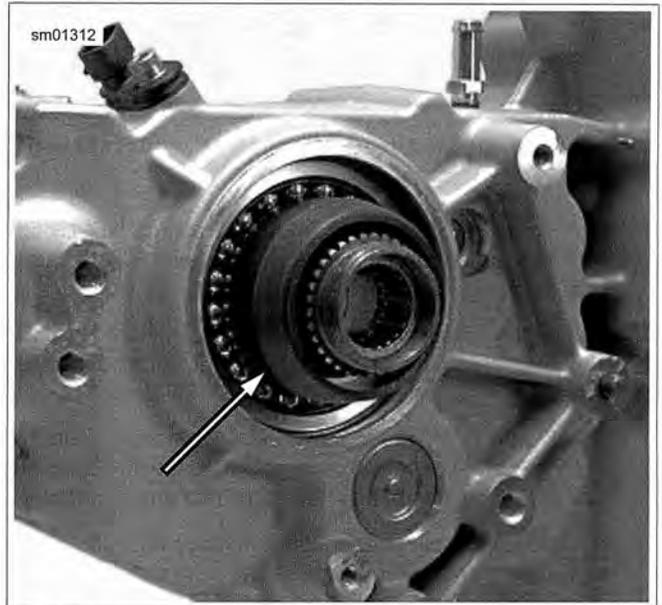

Figure 5-80. Install Pilot (typical, XL model shown)
3. See Figure 5-80. From outside of crankcase, install PILOT (Part No. HD-47856-2) over end of main drive gear bearing inner race.